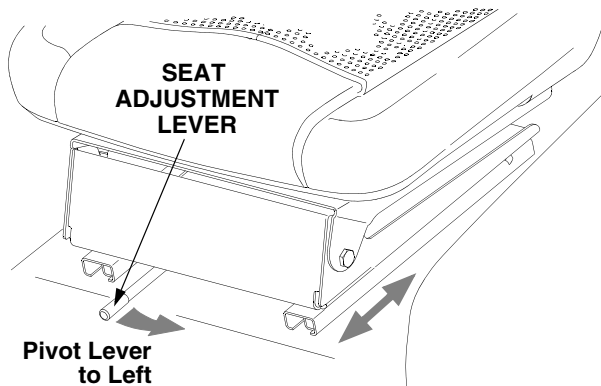

Figure 25
- After repositioning the seat, release the lever to lock the seat in position. Slide the seat either slightly forward or rearward to assure it is locked, or until engagement of the lock is felt. See Figure 25.